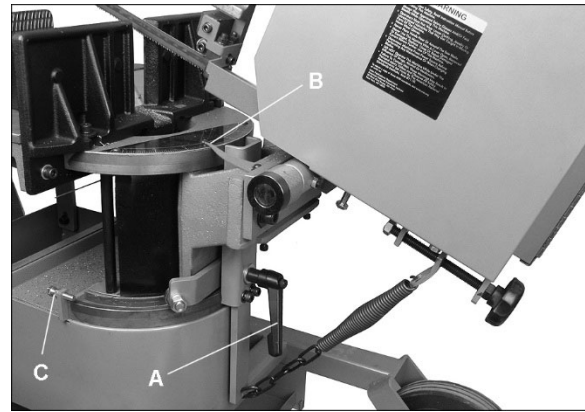

Figure 7-1
The plastic handles for swivel (A, Figure 7-1) and blade guide arm positioning are adjustable to prevent obstruction of other parts. Pull out on handle and rotate it on pin, then release it, allowing it to resettle on pin.
- Loosen handle (A, Figure 7-1) and rotate bow to desired angle on scale (B).
- Verify accuracy of 45-degree left and right stop screws (C). Adjust if needed.
- Tighten handle (A) before operating saw.